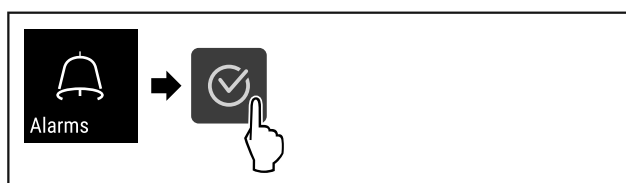

Fig. 135
- ▶ Complete steps (see Fig. 135).